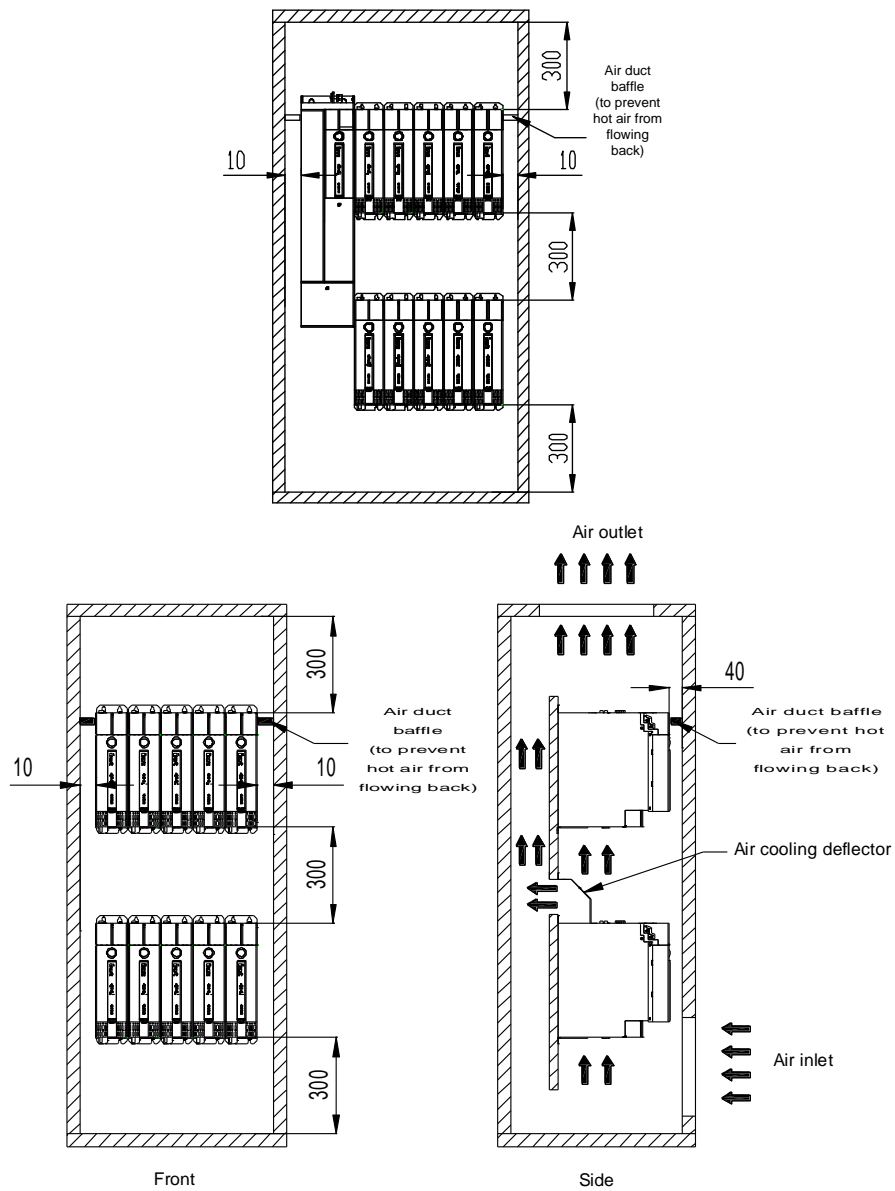

Figure 4-3 Multi-unit parallel installation clearances (the preceding sizes are the minimum, unit: mm)
- When the units need to be installed in two rows, reserve certain space around the units to ensure good heat dissipation. For details, see Figure 4-3.
- When units need to be installed in two rows, the cooling deflector must be installed. For details, see Figure 4-3.